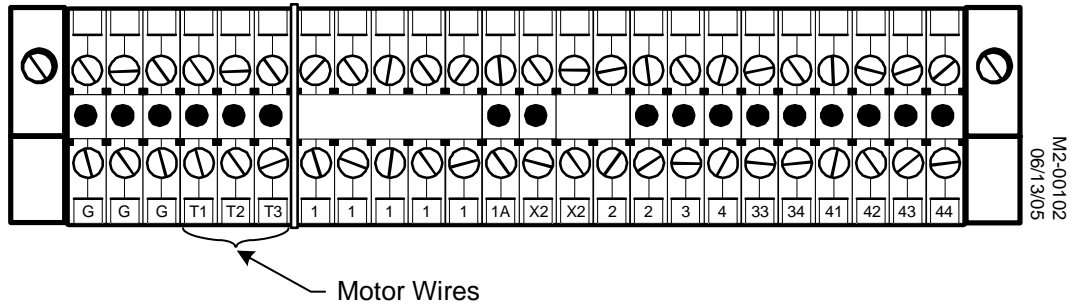

Figure 4-4: Motor Wire Connections on Terminal Block
3. Connect the motor wires (black) to terminals T1, T2, and T3. See Figure 4-4.